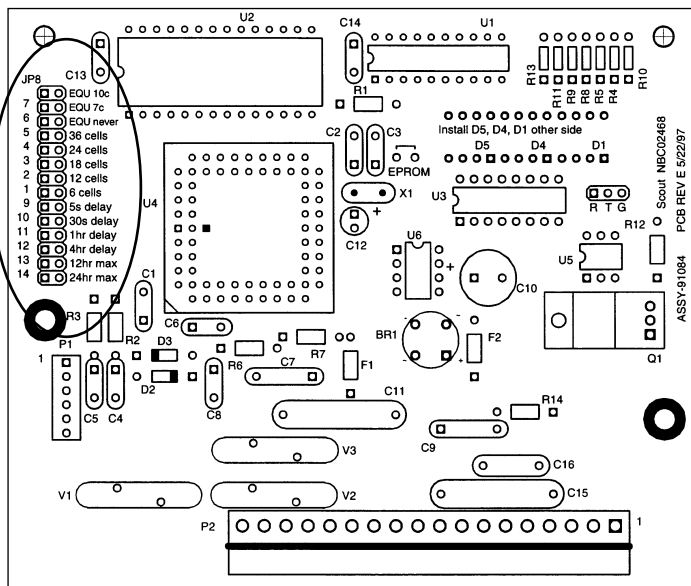

FIGURE 4.2-Printed circuit board panel with configuration jumpers circled
- 3) Locate the configuration jumpers as shown in Figure 4.2.
- 3) Locate the bank of configuration jumpers as shown in Figure 4.2.